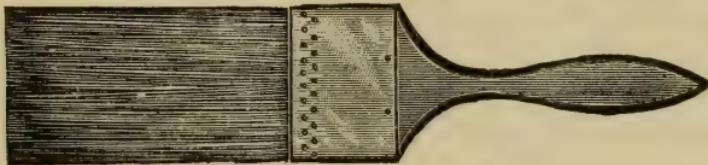
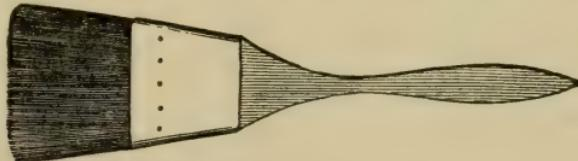

Fig. 27—Walnut Stipplers.
Fig. 28.
*s.* Grainers use a few bristle brushes which are shown by the following illustrations: Fig. 27 shows the stippler used in putting in an all over coarse grain as in walnut, chestnut, etc. Fig. 28 shows the fantail overgrainers which are sized according to width of head from 1 inch up to 4 inches wide by half inch grad-